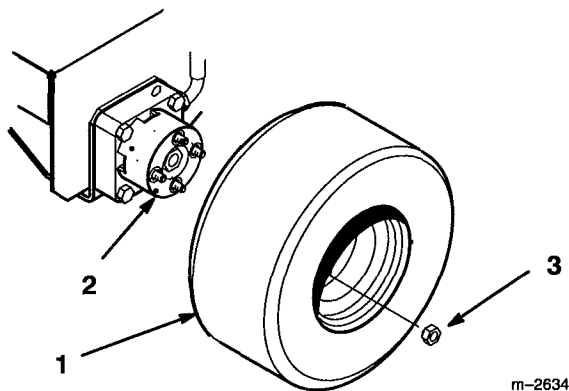

Figure 1
1. Mount wheels to wheel motor hubs with (8) lug nuts (Fig. 1). Torque bolts to 55 ft. lbs. (75 N·m).